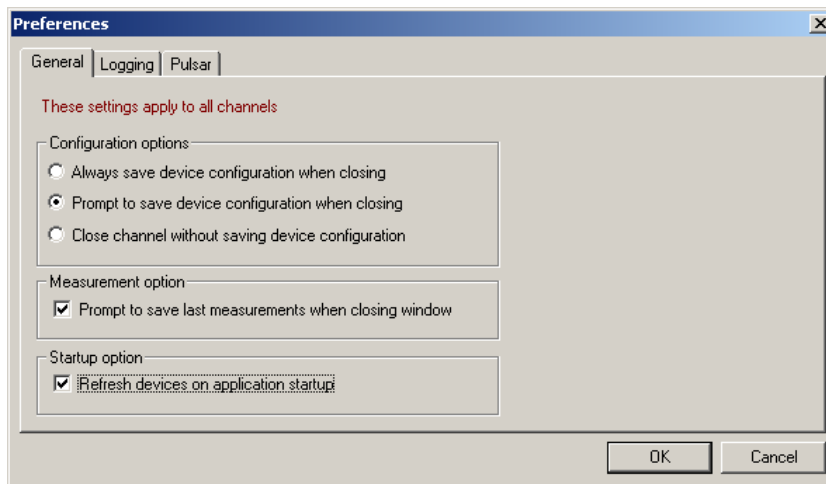

Figure 3-12 Preferences Dialog Box –
1. Open the **Options** menu and select **Preferences**. The **Preferences** dialog box appears, see *Figure 3-12*.